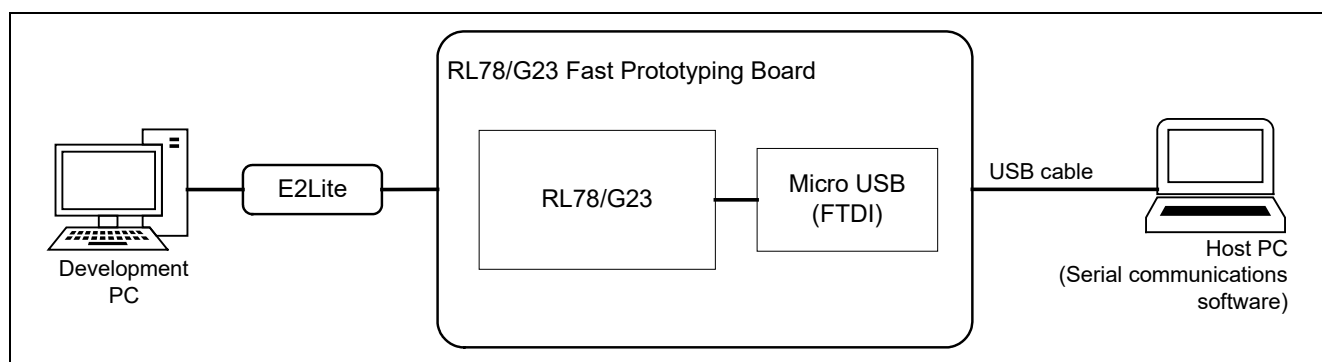

Figure 7.1 RL78/G23 Fast Prototyping Board Device Connection Diagram
1. Connect the USB port of the PC to the micro USB port of the RL78/G23 Fast Prototyping Board as shown in Figure 7.1, RL78/G23 Fast Prototyping Board Device Connection Diagram.